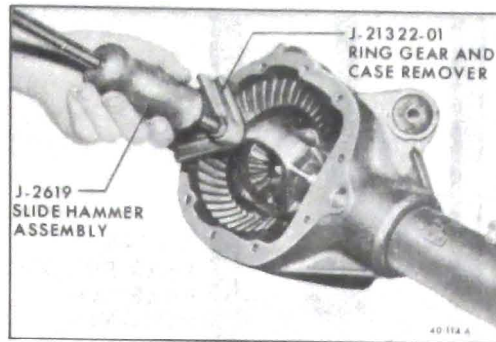

Figure 40-93 Removing Differential Case Assembly
9. Remove two ring gear retaining bolts from differential case and install Ring Gear and Case Remover J-21322 with slide hammer as shown in Figure 40-93. Remove case assembly and place right and left bearing outer races and shims in sets with marked bearing caps so that they can be reinstalled in their original positions.